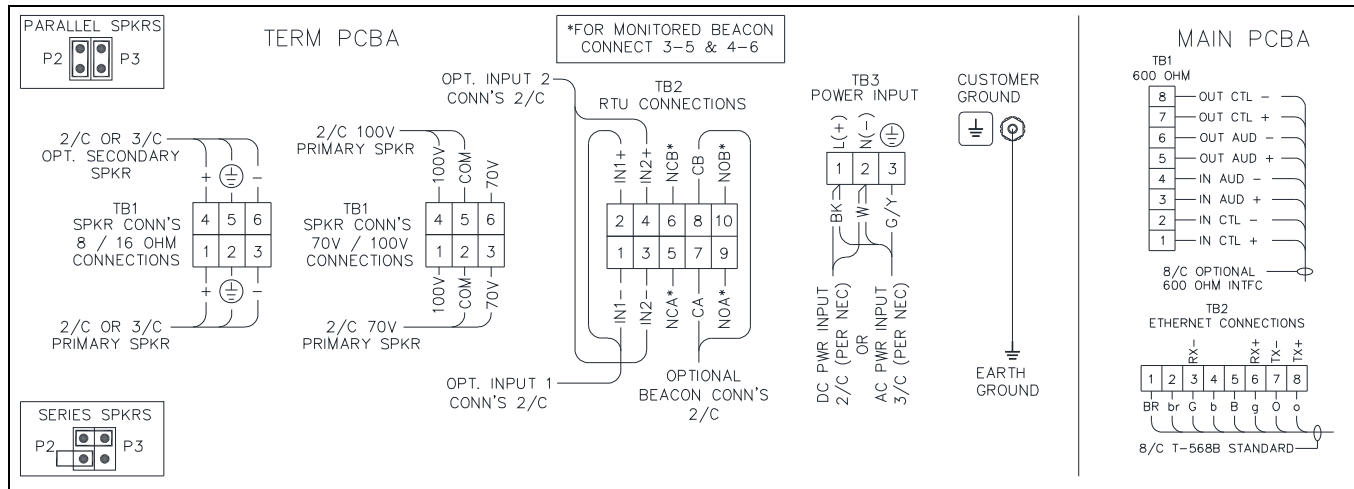

Figure 3. SP2 Termination and Main PCBA Connections
SP2 stations provide terminal blocks, on the termination PCBA, located in the rear enclosure, for field wiring the power, speaker, and RTU connections. The main PCBA, mounted to the back of the front panel, provides pluggable terminal blocks for the 600-ohm audio and Ethernet network connections (see Figure 3).
1. Terminate the direct speaker connection to terminal block TB1 on the termination PCBA (see Figure 3).
1. Connect 100-volt speakers between the 100V and COM terminals on TB1. Connect 70-volt speakers between the 70V and COM terminals on TB1 (see Figure 3).
5. Terminate the RTU inputs and output to terminal block TB2 on the termination PCBA (see Figure 3).
6. Terminate the ac or dc power input to terminal block TB3 on the termination PCBA (see Figure 3).
7. Terminate the 600-ohm audio connections to terminal block TB1 on the main PCBA (see Figure 3).
8. Terminate the Ethernet connection to terminal block TB2 on the main PCBA (see Figure 3).